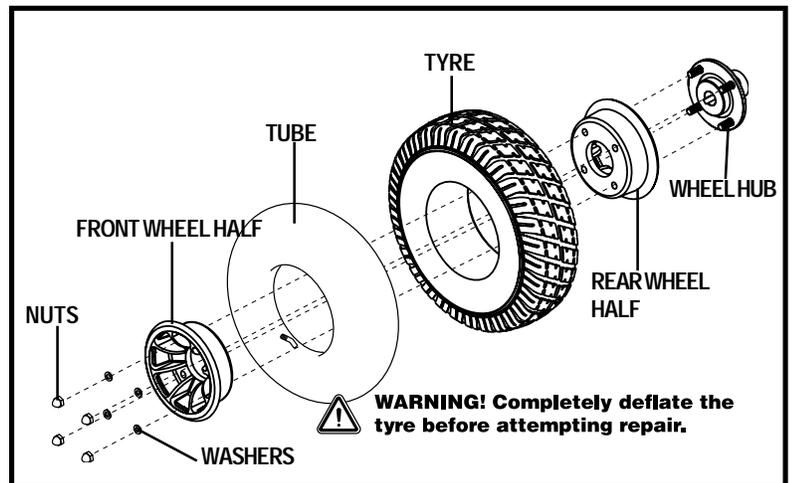

Figure 33. Quantum Dynamo 1107 Drive Wheel Disassembled
6. Remove the nuts and washers from the wheel hub and separate the wheel halves. See figure 33.